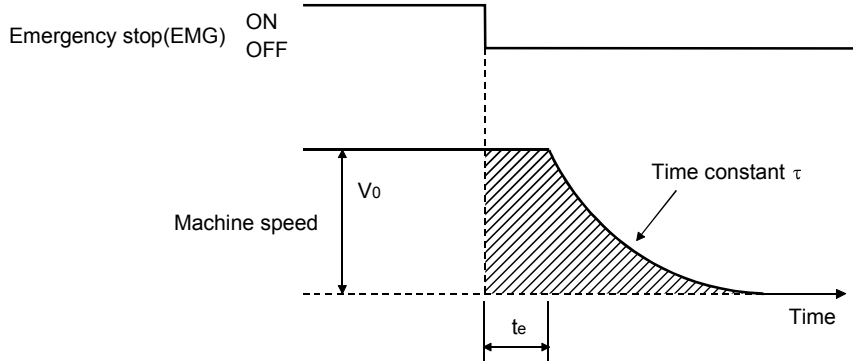

Fig. 11.3 Dynamic brake operation diagram
Fig. 11.3 shows the pattern in which the servo motor comes to a stop when the dynamic brake is operated. Use Equation 11.2 to calculate an approximate coasting distance to a stop. The dynamic brake time constant τ varies with the servo motor and machine operation speeds. (Refer to (2) (a), (b) of this section.)